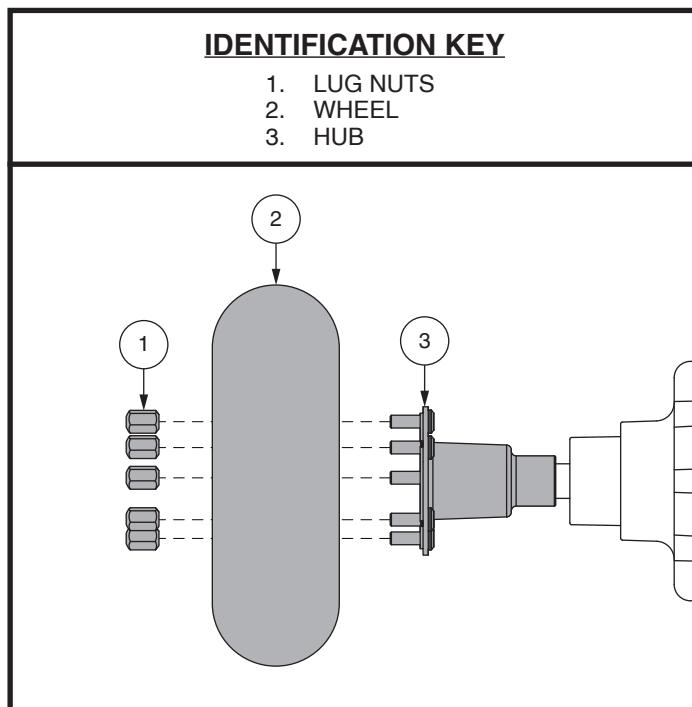

Figure 19. Wheel Replacement
4. Remove the lug nuts from the hub. See figure 19.